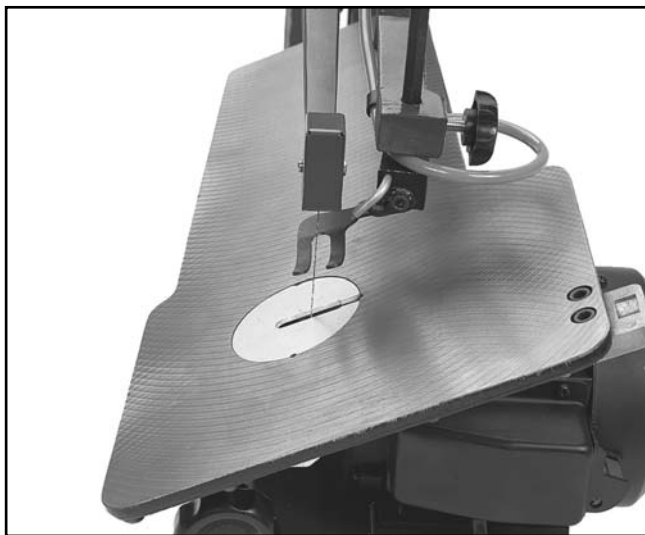

Figure 7.
1. Facing the Saw, turn the Table Insert 90° to the right as shown in **Figure 7**.